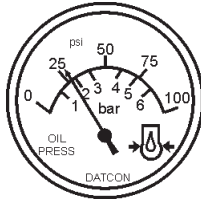

Figure 49. Oil Pressure Gauge
12. The engine oil pressure gauge (Figure 49) will indicate the oil pressure (kg/ cm²) of the engine. Under normal operating conditions the oil pressure is approximately 35~65 PSI.